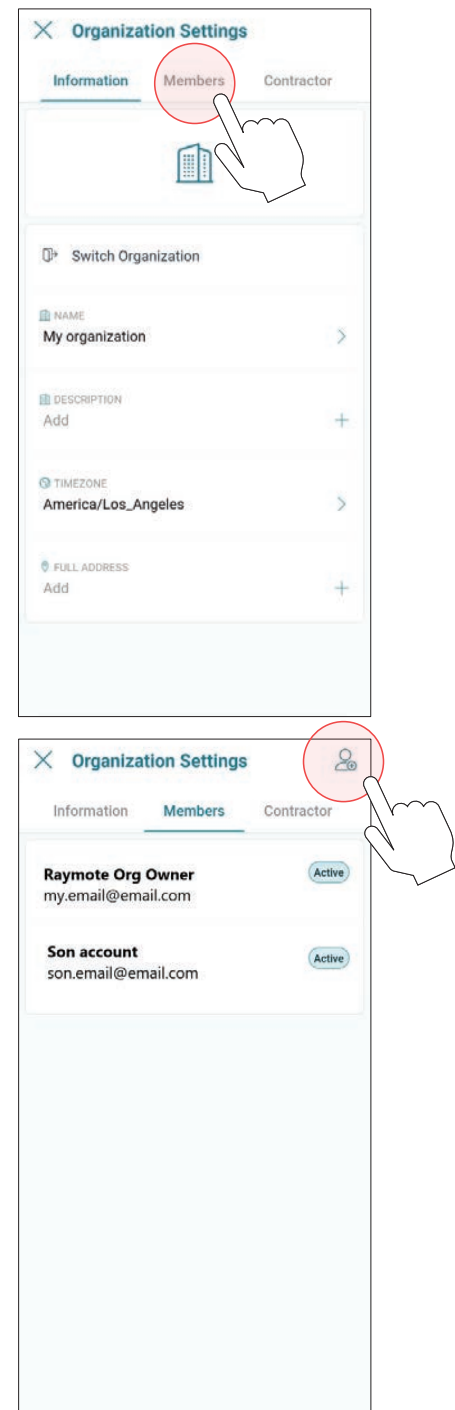
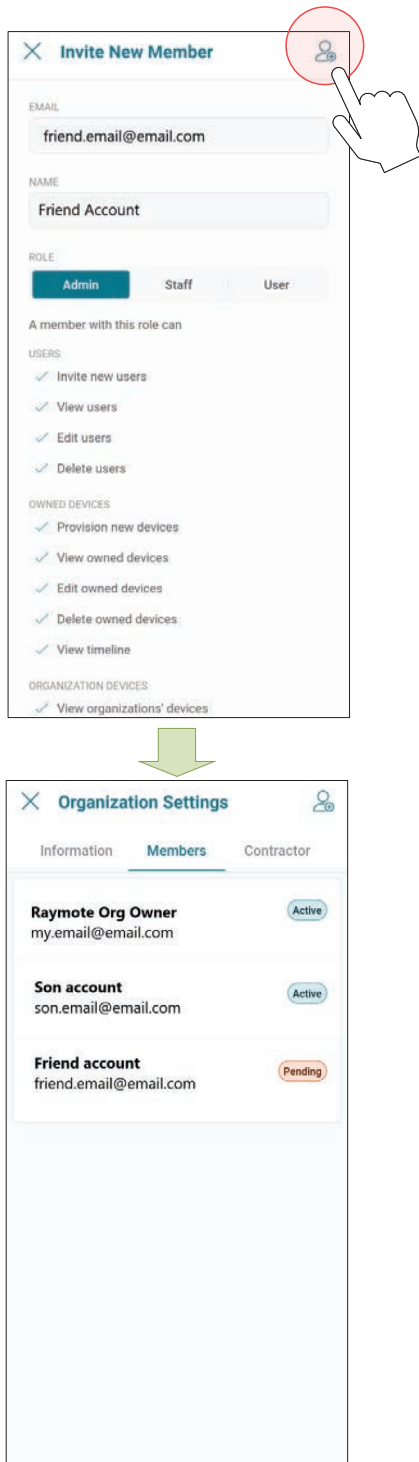

Figure 109. Invite a New Member to your Organization
Figure 110. Invite a New Member
4. Click on the top-right icon to [Invite a New Member]. See Figure 109 and Figure 110.